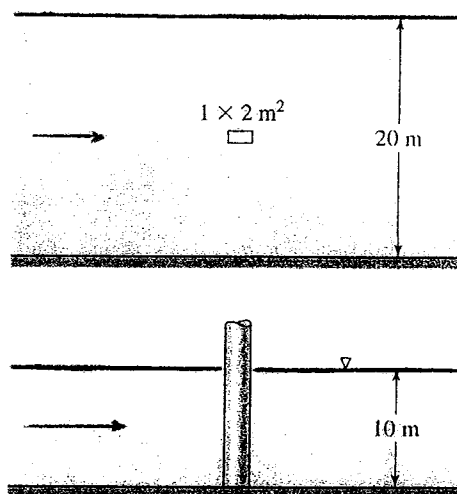

Figure 7
- (c) A bridge pier is a canal is 1 m x 2 m, as shown in Figure 7. If the flowrate is 10 m/s, what is the bending moment on the pier? Assume a uniform velocity profile.